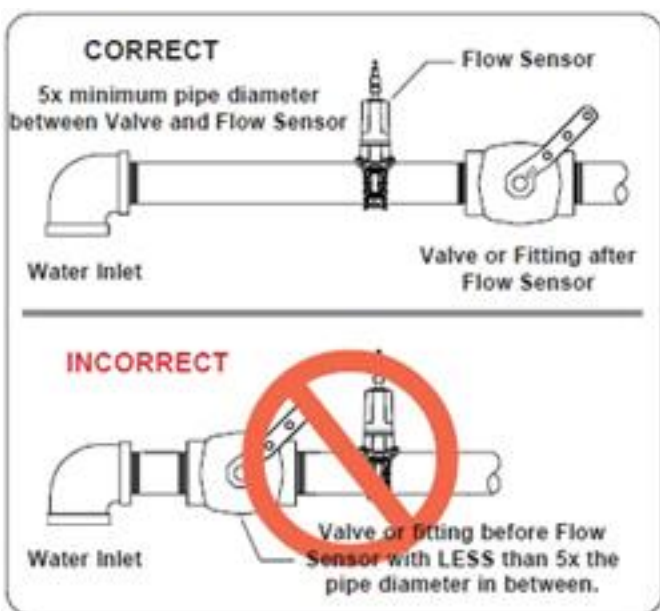

Figure 21: Flow Sensor Placement
1. A minimum of **6 times the pipe diameter** of straight run pipe without any fittings is necessary prior to the flow sensor paddle wheel. (See Figure 21: **Flow Sensor Placement**).